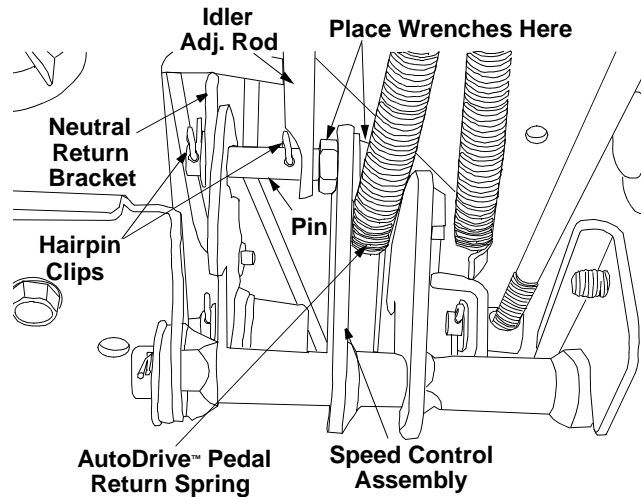

Figure 29
- Locate the speed control assembly on the underside of the steering support bracket. See Figure 29.
- Remove both hairpin clips from the pin which is fastened to the speed control assembly (be careful not to lose the small flat washers found on the pin). See Figure 29.
- Using two 9/16" wrenches, remove the pin from the speed control assembly. See Figure 29.